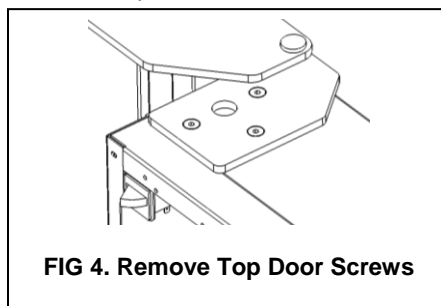

FIG 4. Remove Top Door Screws
2. **Remove the door:** This requires a minimum of two people. Open the door at least 90 degrees. While someone holds the door in place to prevent bending or damage to the bottom pivot, remove the three (3) 5/32" hex socket/Allen screws fastening the top hinge assembly to the top of the door (see Figure 4). Once these screws are removed the door needs to be lifted vertically off the bottom hinge. The bottom hinge pin rests on top of nylon washers to provide proper door height and smooth operation ... retain these washers for reassembly.